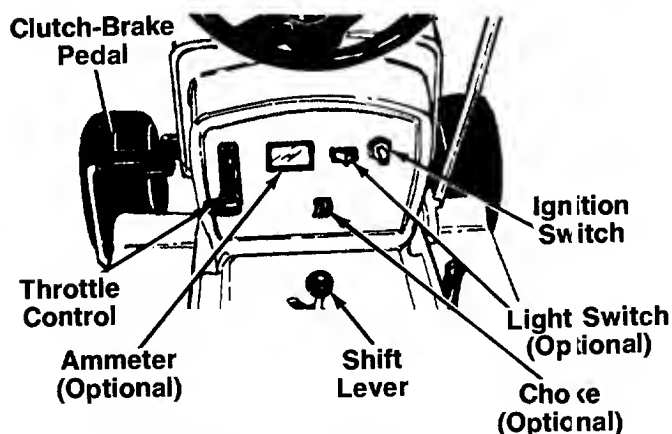

FIGURE 8.—Model 652 Shown
The throttle control is used to regulate the engine speed. To get maximum efficiency from cutting, the throttle should be in the FAST position when operating the mower. See figure 8.
The choke control is located on the dashboard and is operated manually. Details for the choke operation are covered in the separate engine manual packed with your unit. See figure 8.
Turn the key to the START position to start the engine. When the engine is running, let the key return to the ON position. To stop the engine, turn the key to the left to the OFF position and remove it to prevent accidental starting. See figure 8.
Push the light switch to turn on the lights. The lights will only operate when the engine is running. See figure 8.
The ammeter registers the rate of battery charge or discharge. The ammeter will register on the discharging side when starting the engine. It should register on the opposite side (charging) when the engine is running in the fast position until the battery is completely charged. With a fully charged battery or with the engine idling, the ammeter will not show a charge. See figure 8.
The clutch-brake pedal is located on the left side of the lawn tractor. Depressing the clutch-brake pedal part way disengages the clutch. Pressing the pedal all the way down disengages the clutch and engages the disc brake. See figure 8.
3. Set the throttle control in the FAST position. See figure 8.
5. Turn the ignition key to the START position. When the engine is running, let the key return to the ON position. See figure 8.